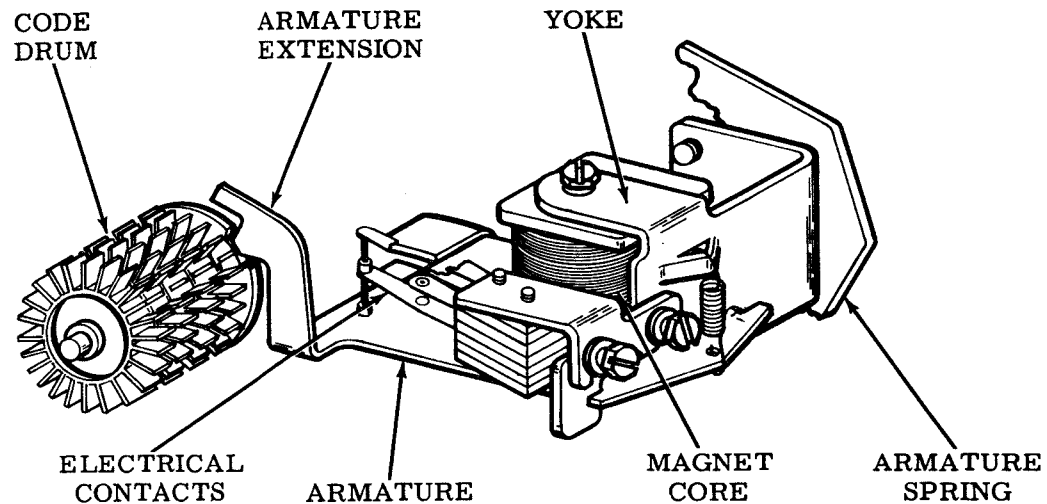

Figure 5 - Trip Magnet
2.05 The trip magnet is attached to the main mounting bracket of the answer-back mechanism as shown in Figure 5. The trip magnet consists of a yoke, magnet core, armature with spring, and electrical contact pile-up. The armature is held away from the magnet core by a spring connecting the rear edge of the armature to the yoke.